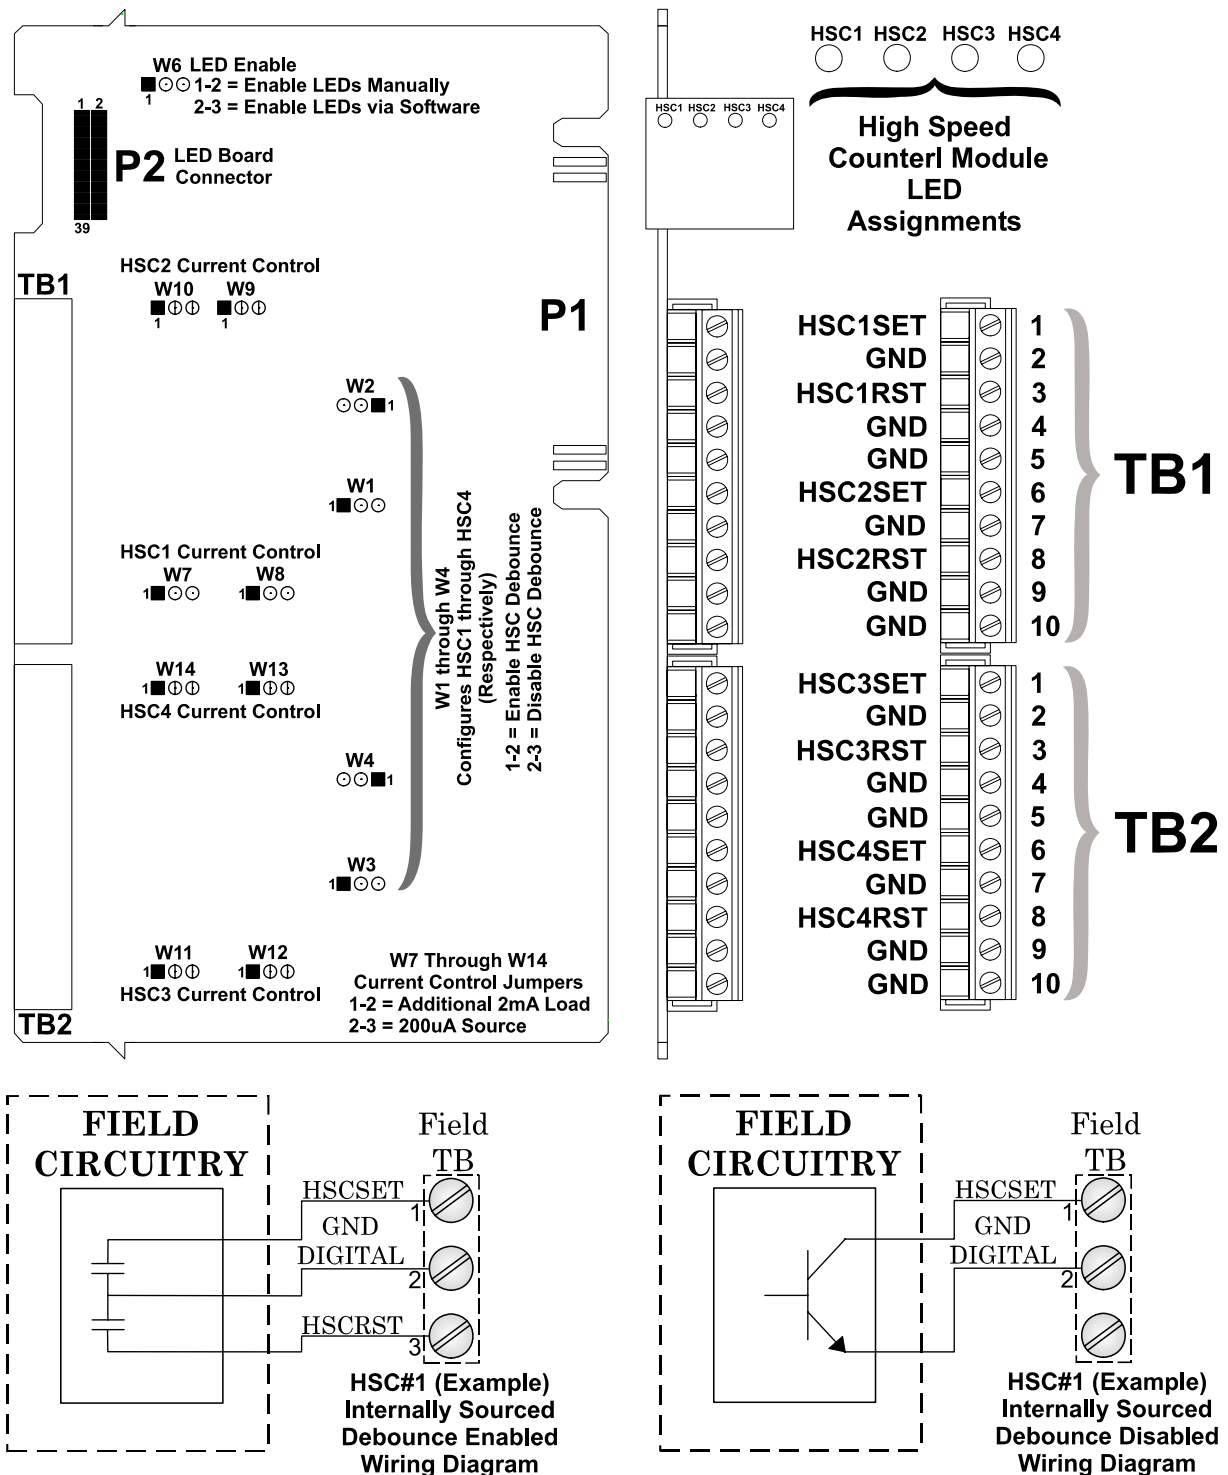

Figure 2-21 - Non Isolated HSC Module Configuration Diagram
2.3.4.6 Non-isolated High Speed Counter Input Module (see Figure 2-21)
Field wiring assignments are provided in Figure 2-21.